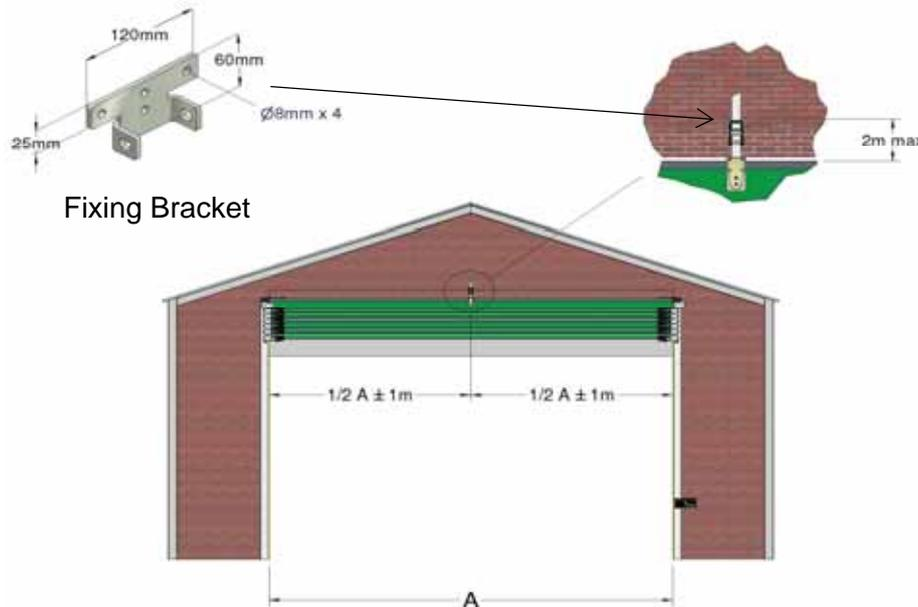

Figure 9a
10. Lifting Cable and Panel Support: Additional support(s) for the panel and lifting cable is supplied for doors over 10m wide in accordance with the Table 3. See Figures 9a and 9b. The inset drawing shows the footprint of the fixing bracket is 120 x 60mm.